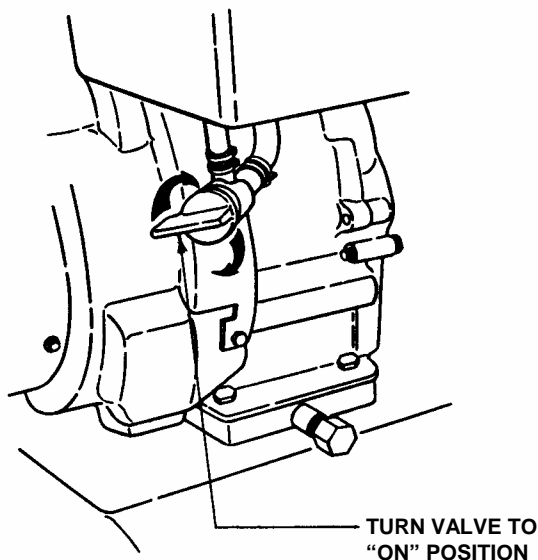

FIGURE 2.3
1. Turn fuel shut off valve to the "ON" position. See Figure 2.3.
1. Turn fuel shut off valve to the "ON" position. Refer to Figure 2.3.